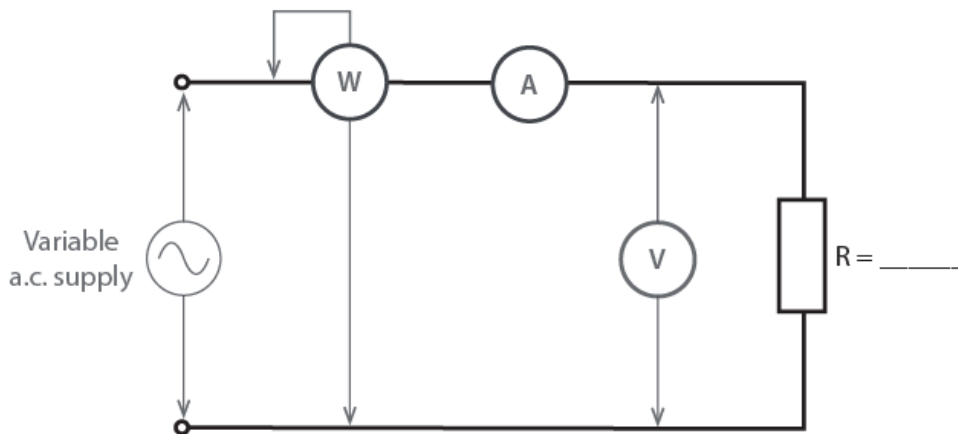

Figure 1
2.1.2 Connect up the circuit as shown in Figure 1 below.